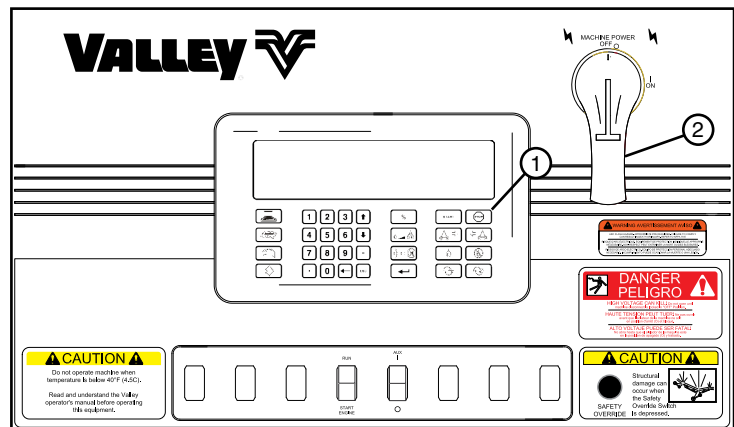

Figure 37-2 AutoPilot Control Panel Shown
1. Press the STOP key. See Figure 37-2.
2. Turn the main disconnect switch to the OFF position. See Figure 37-2.